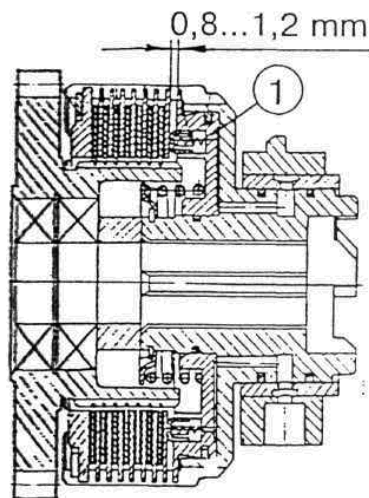

Figure 5.14
- b) try thickness of friction disks' stack in a way for piston (1) stroke (figure 5.14) to be 0.8..1.2 mm;